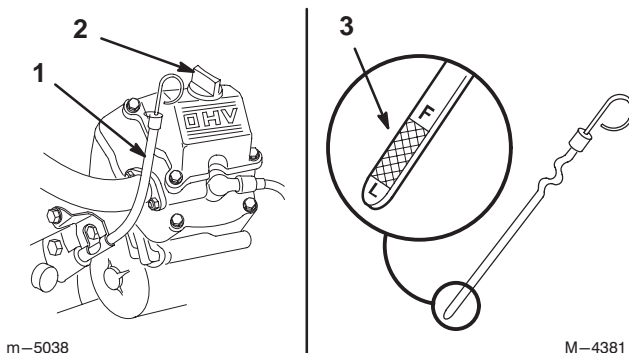

Figure 27
2. Clean around the oil dipstick so dirt cannot fall into the filler hole and damage the engine (Fig. 27).
3. Pull the oil dipstick out and wipe the metal end clean (Fig. 27).
4. Slide the oil dipstick fully into the filler cap. Pull the dipstick out and look at the metal end (Fig. 27). If oil level is low, slowly pour only enough oil into the filler tube to raise the level to the “FULL” mark.
5. Slowly pour approximately 80% of the specified amount of oil, page 32, into the filler tube (Fig. 27). Now check the oil level; refer to Checking Oil Level, page 33. Slowly add additional oil to bring to “FULL” mark on dipstick.